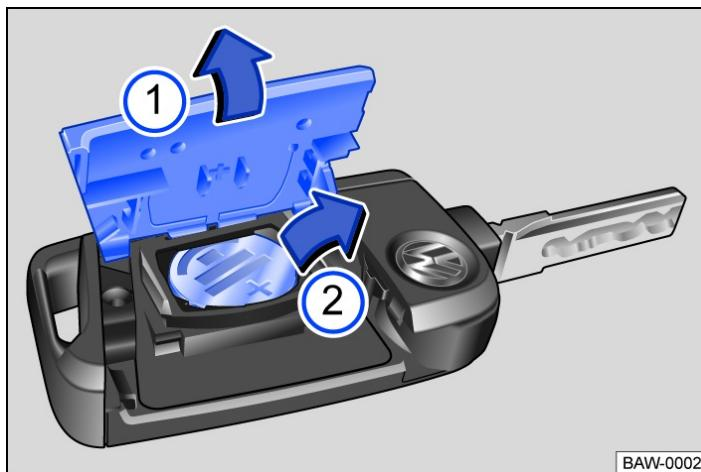

Fig. 1 Vehicle key: replacing the button cell.
- Lever off the cover → Fig. 1 ① → ①.
- Lever the button cell out of the battery compartment → Fig. 1 ②.
- Press the new button cell into the battery compartment → ①.
- Press the cover onto the housing → Fig. 1 ①.